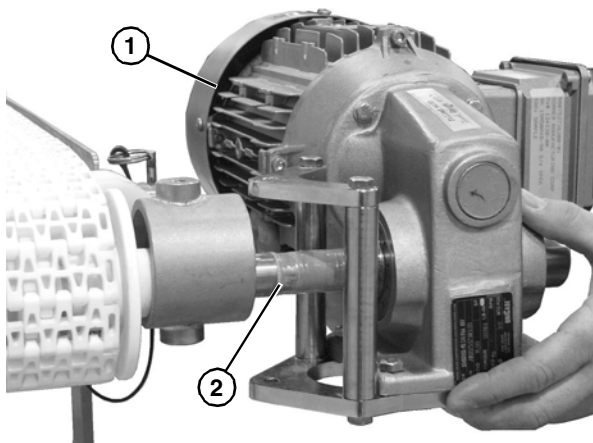

Figure 13
2. Slide the gearmotor assembly (**Figure 13, item 1**) onto the drive spindle (**Figure 13, item 2**).